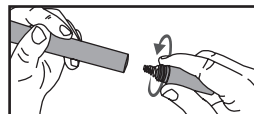

Figure 1.1; Unscrew Battery Cap
To install the batteries, unscrew the BATTERY CAP ⑧ located at the bottom of the E-Wand TWIST HANDLE ⑥ [Fig. 1.1].